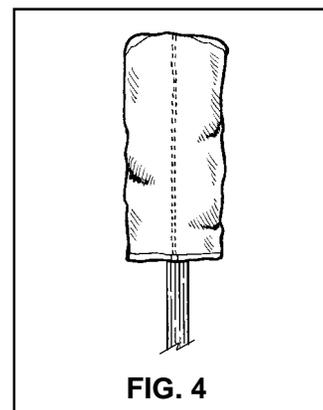

FIG. 4
5. At this point, refer to the directions by the canopy manufacturer for flaking and folding the canopy. After flaking and folding it should resemble (**FIG. 4**).